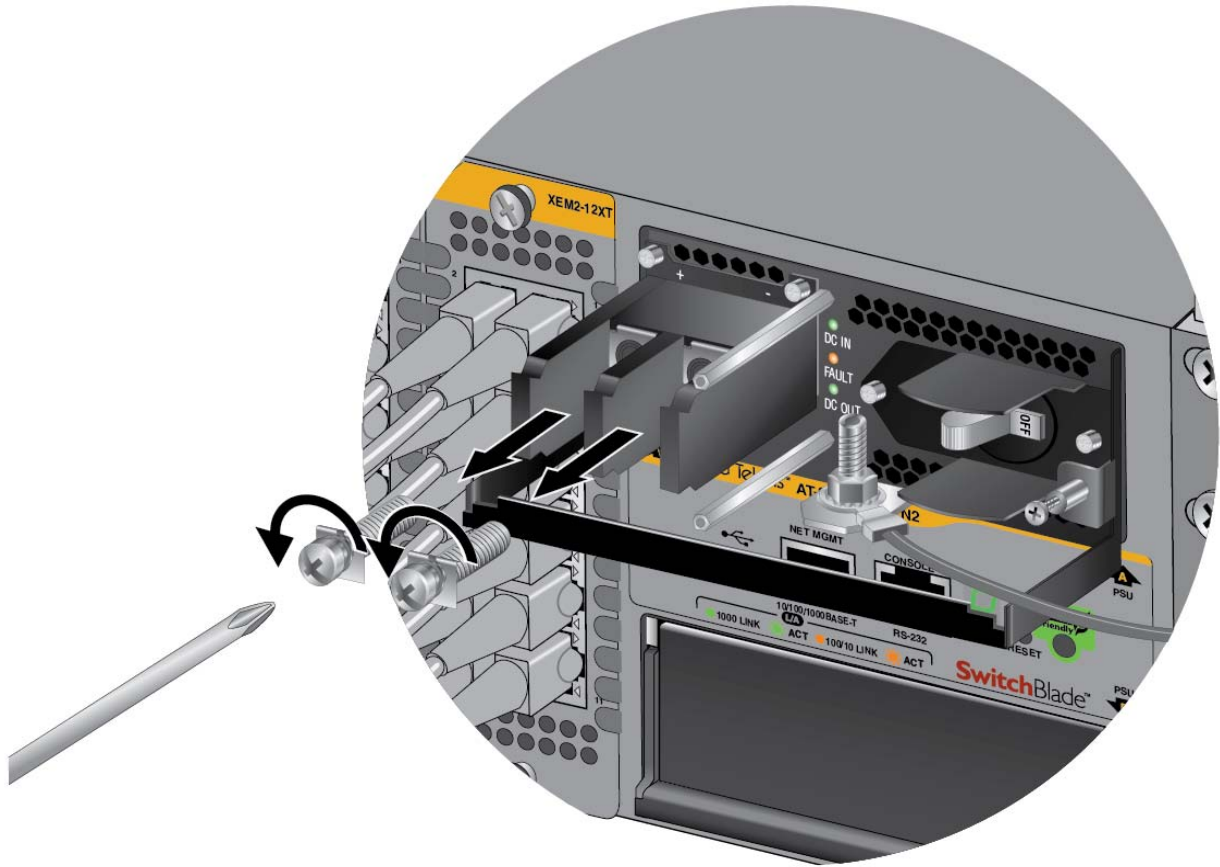

Figure 73. Removing the Terminal Screws
5. Use a #3 Phillips-head screwdriver to remove the two screws from the positive and negative terminals, as shown in Figure 73 on page 103.